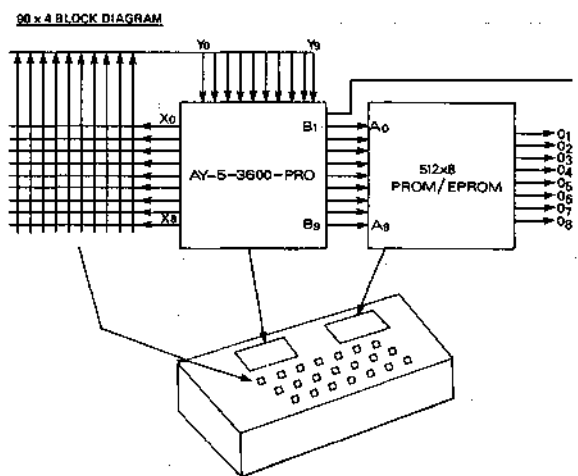

Fig. 9 90 KEY 4 MODE KEYBOARD APPLICATION
Expansion to a 90 key 4 mode operation (see Fig. 9) is identical to the 64 key 4 mode except; the 90 key 4 mode version utilizes the full complement of addresses X0 Y0 thru X8 Y9 (90 keys). The 8-bit binary code (B2-B9) previously produced to address the 256  $\times$  8 PROM/EPROM is now expanded to a 9-bit binary code (B1-B9) for addressing to a 512  $\times$  8 PROM/EPROM. With expansion to a 90 key 4 mode application outputs B1-B3 now serve as the variable mode identification.